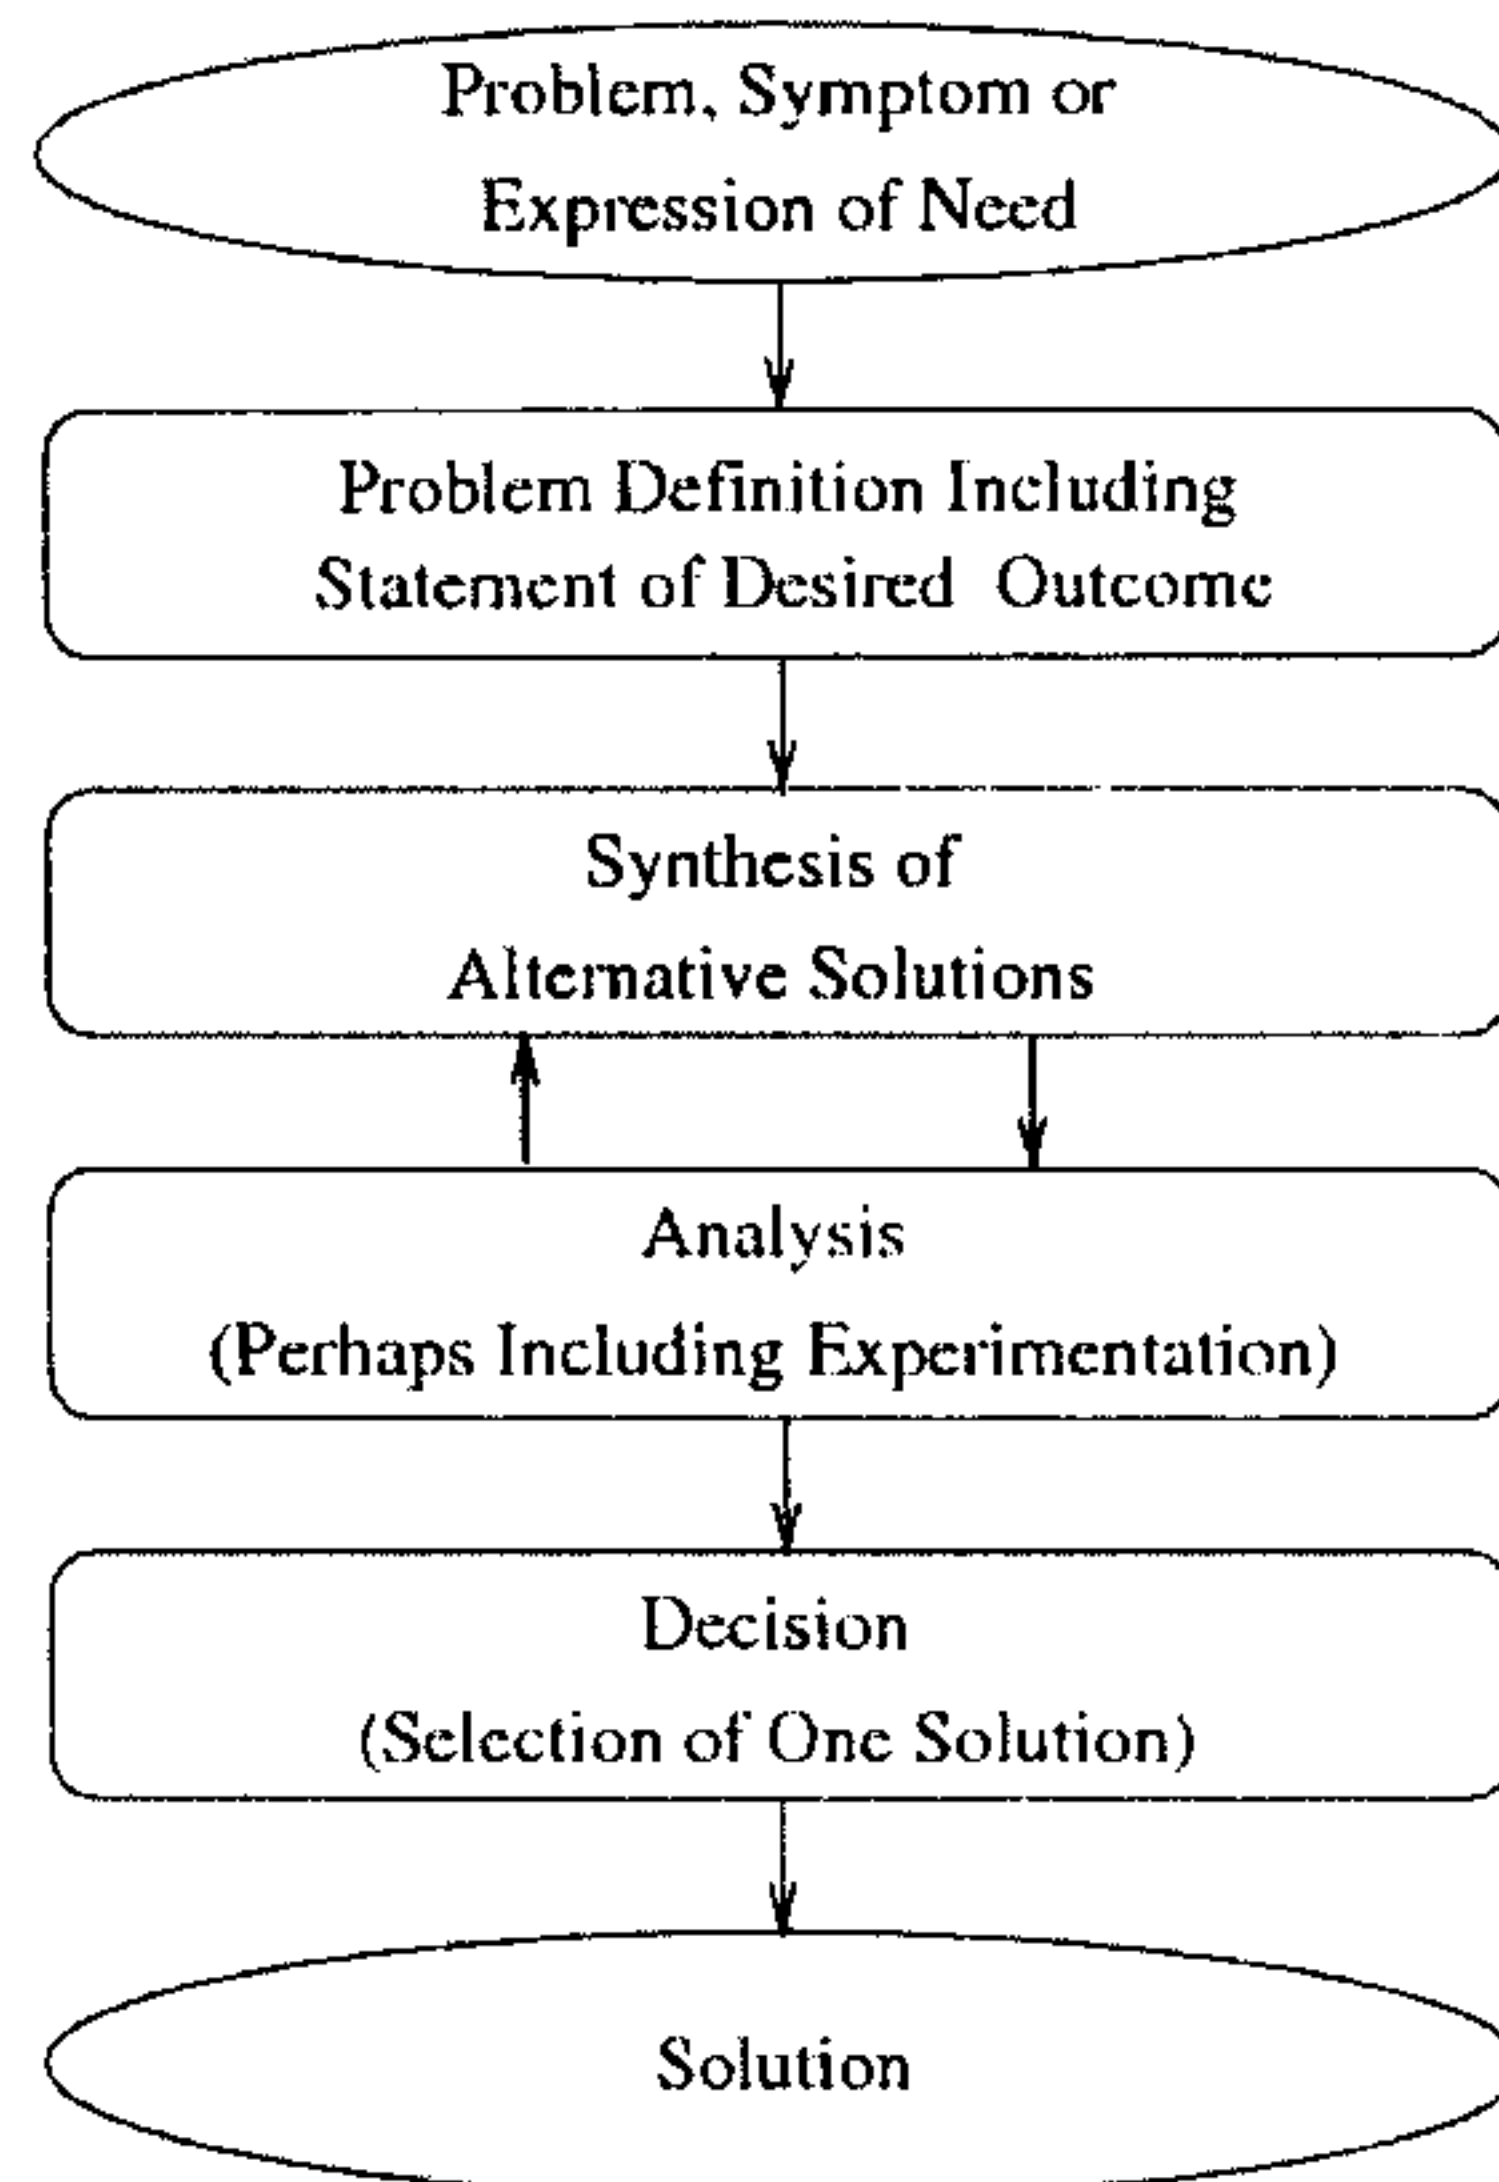

Figure 1 - Engineering Design Process
1. [a] Figure 1 show the steps for engineering process in general. Referring to Figure 1, discuss and elaborate the process of plant design phases (i.e., from conceptual design until execution of the plant).